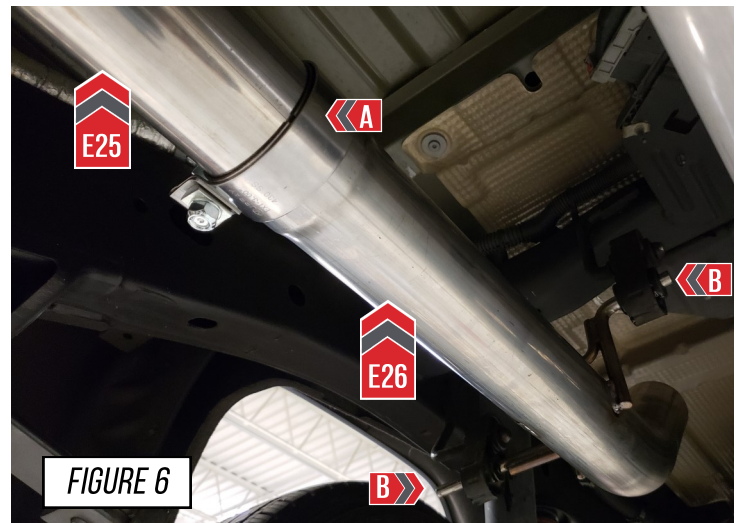

FIGURE 6
Place a provided exhaust clamp over the expanded end of your AWE overaxle inlet tube (E26), shown at (A) in **Figure 6**.
When the tube is bottomed out slide the hanger bars into the hangers as shown at (B) in **Figure 6**.